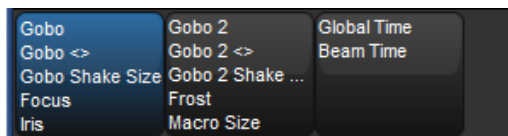

Figure 6.3. The Wheelsets Toolbar for a Studio Spot 575
2. If the selected fixture has more parameters of the selected type than there are wheels, the Wheelsets Toolbar will open; see *Figure 6.3, “The Wheelsets Toolbar for a Studio Spot 575”*. Page through the available parameters by pressing the parameter type key again, or select a button on the toolbar.